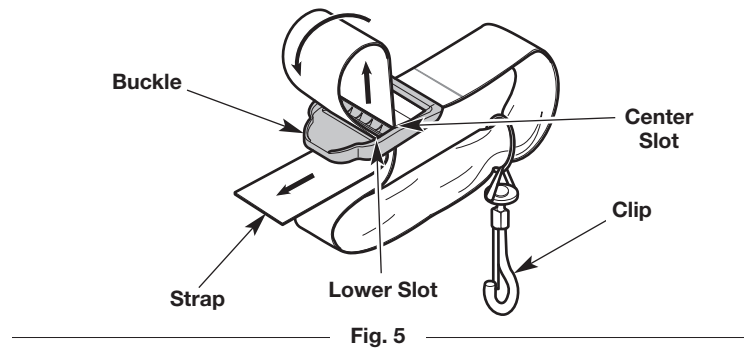

Fig. 5
1. Push the strap up through the center slot in the buckle (Fig. 5).
2. Bend the strap over and push it down through the lower slot in the buckle (Fig. 5).